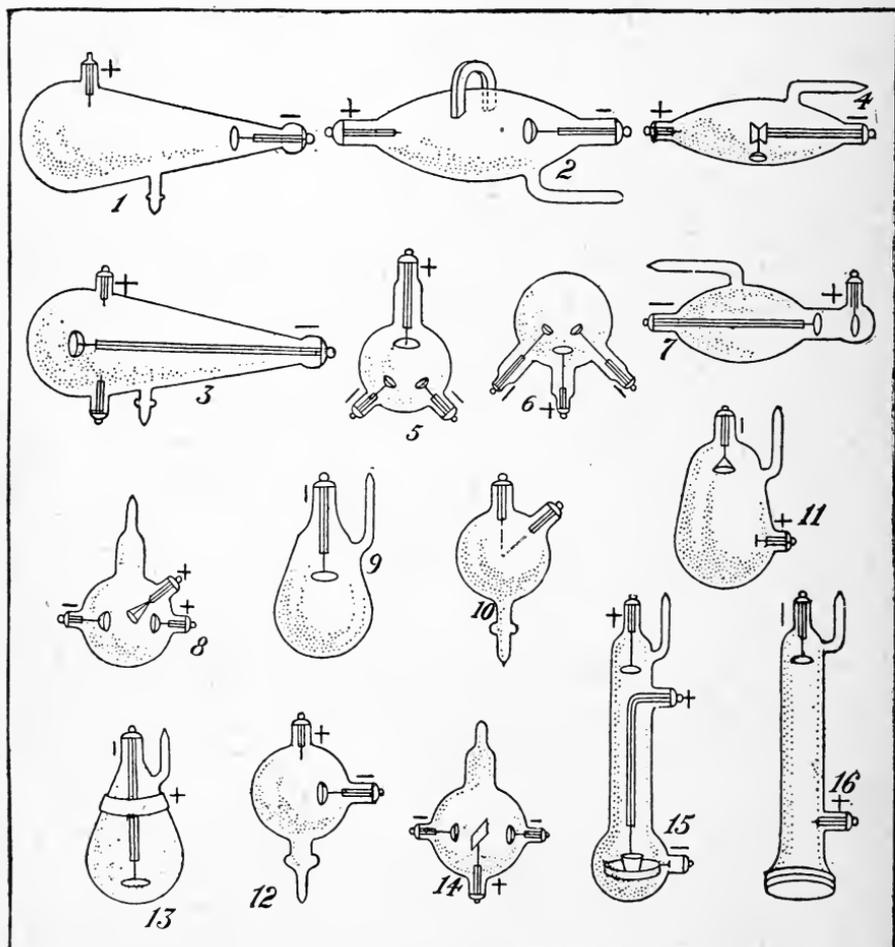

FIG. 141.
the opposite wall of the tube. Professor William Crookes made many important experiments (1874—1879) with partial and high vacuum tubes (Crookes tubes are shown in fig. 141.)
**257.** When a specially constructed Crookes tube, (a few different varieties of which are shown in fig. 141), is brought to light in a dark room in front of a fluorescent screen, and the human body is interposed between the tube and the screen, the rays generated will penetrate the flesh, and show only misty outlines of it; the rays, however, will be almost completely obstructed by the bones, which will throw dark shadows on the screen. In this way the presence of extraneous substances may be observed in living human bodies, without the necessity of using the surgeon's knife. X-rays are at present extensively used by physicians in locating foreign bodies and broken bones.